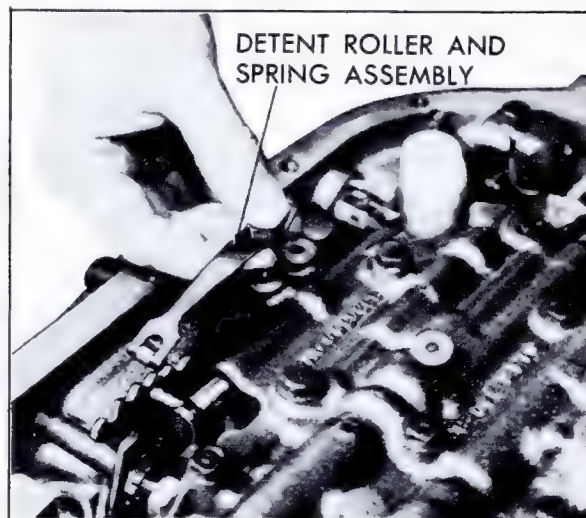

Fig. 7-119 Installing Detent Spring and Roller Assembly
3. Remove guide pins and start control valve assembly attaching screws, including detent spring and roller assembly attaching screw, Fig. 7-119. Torque screws to 8 foot-pounds.